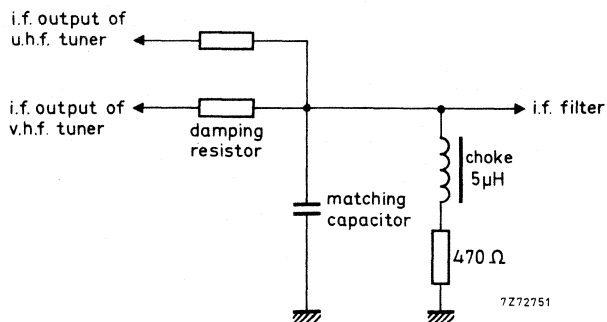

Fig. 12.
The tuner needs a d.c. path from the i.f. output terminal (T) to earth, preferably via a choke of approx.  $5 \mu\text{H}$  outside the tuner (Fig. 12). Where the tuner is used in combination with a u.h.f. tuner, this choke can be common for both tuners; a resistor in series with the choke can make ineffective the i.f. output circuit of the switched off tuner. For damping the i.f. output circuit and matching the i.f. output impedance of the tuner to the i.f. amplifier, a series resistor and a parallel capacitor as shown in Fig. 12 should be used. (During v.h.f. operation the voltage across the  $470 \Omega$  resistor is 1 to 1,2 V).